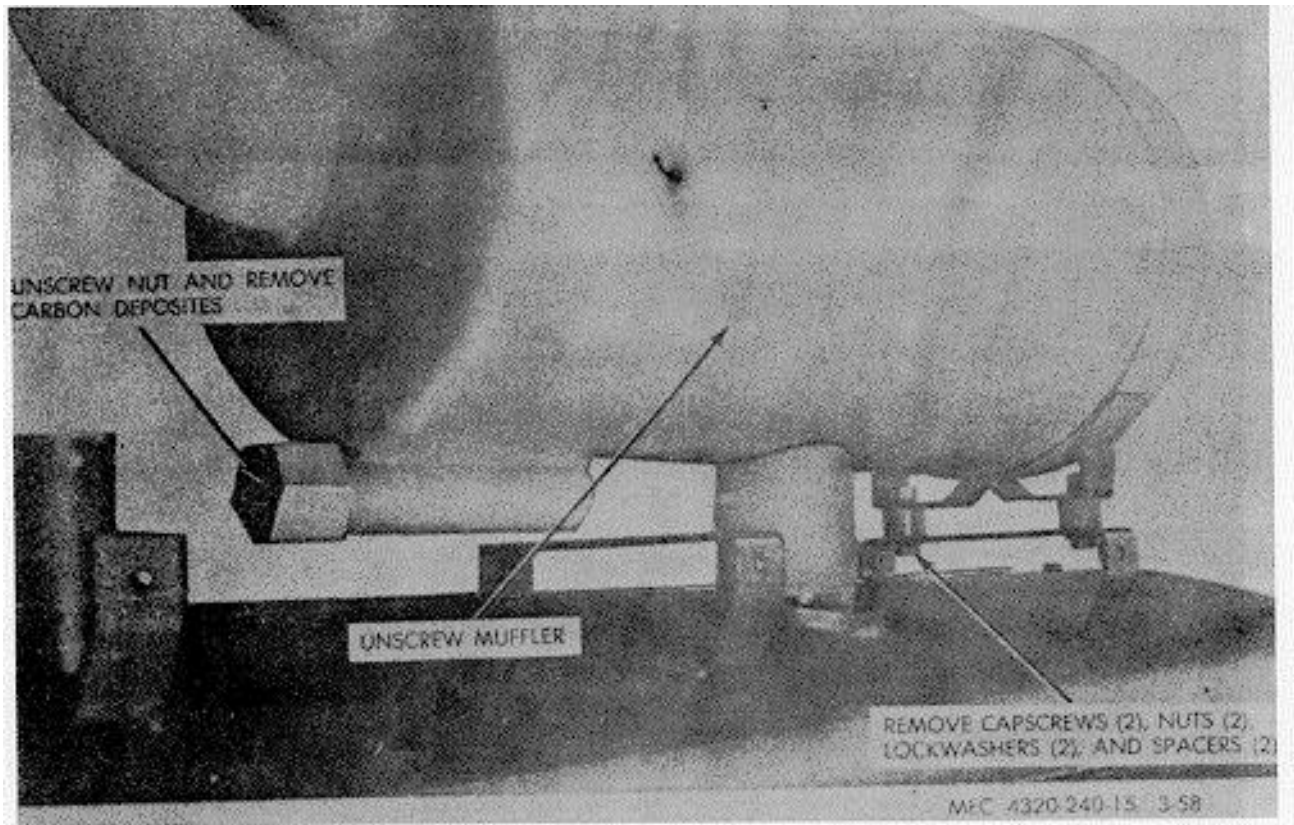

Figure 3-58. Muffler removal and installation.
c. *Service.* Refer to figure 3-58 and clean out carbon deposits.
(2) Refer to figure 3-58 and remove muffler.